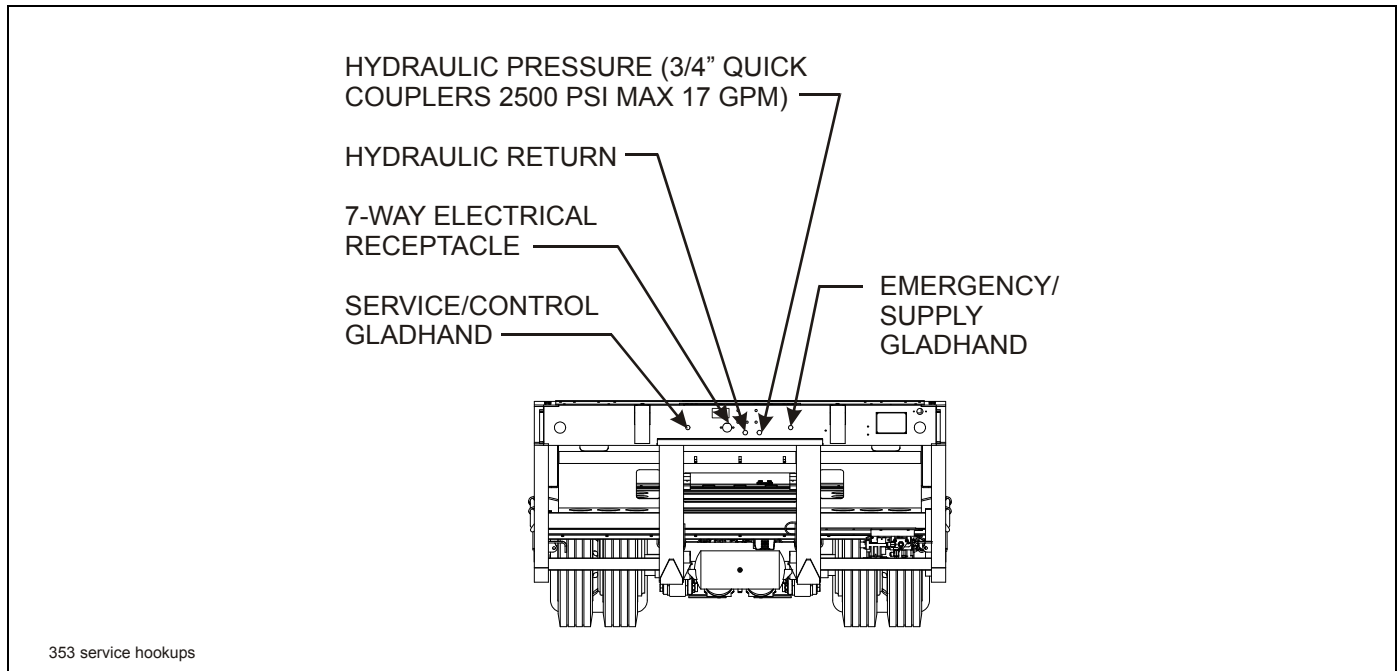

Figure 3-3: Service Hookups
3. Connect the service and emergency air hoses of the towing vehicle to their respective gladhand on the front of the semitrailer; red emergency line to the gladhand with the "**EMERGENCY**" tag, and the blue service line to the gladhand with the "**SERVICE**" tag (**See Figure 3-3.**) Chock the semitrailer wheels before activating the semitrailer air supply valve in the towing vehicle. Set the parking brakes.
1. Connect the towing vehicle 7-pole electrical plug to the electrical receptacle on the front of the semitrailer (See Figure 3-3.)